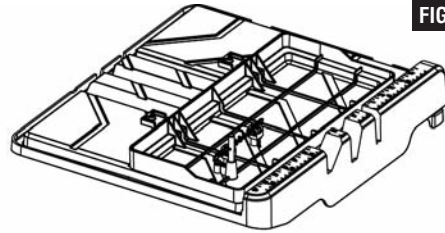

FIG. 27
6. Remove the Extension Work Table, turn it upside down and secure it to the Sliding Work Table (Fig. 27).